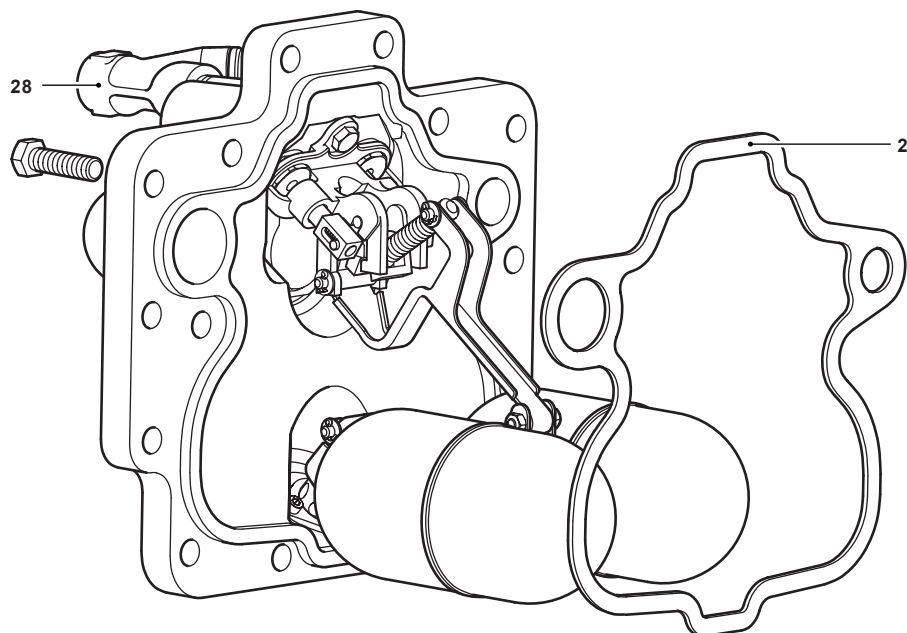

Fig. 20 APT14 shown
6. Carefully reconnect the motive steam supply and the exhaust lines to the connections marked (S) and (E). The APT14, APT14HC or APT14SHC is now ready to recommission.
7. Make sure that the Spirax Sarco motive supply strainer (with 100 mesh screen) is reinstated to the motive supply connection (item 28, Figure 20).
3. Carefully remove the circlip, washer and the inlet valve spring (item 27) from the end of the steam inlet valve (item 17).
5. Lift away the pump bracket assembly (See Figure 20). This will allow access to the inlet swing check valve (item 12).